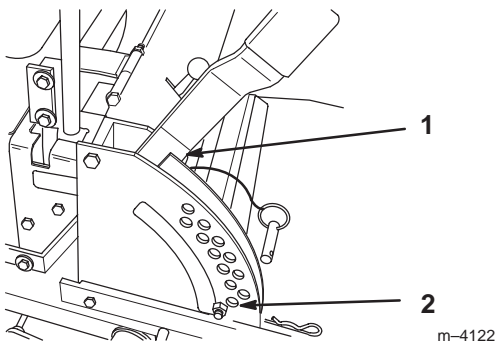
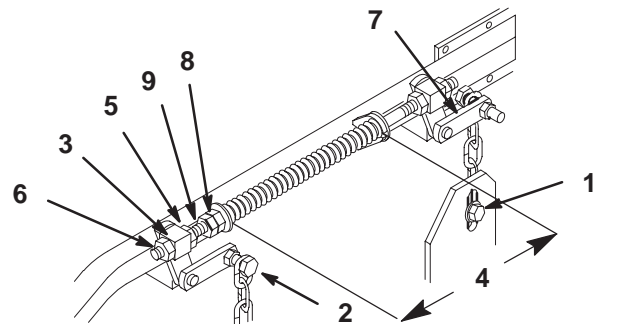

Figure 51
Figure 52
- Check tire pressure of all four (4) tires. If needed, adjust to 13 psi (90 kPa)
- Raise the deck to the transport position (Fig. 51). Take force off of the two large deck lift springs by loosening jam nut and front spring nut, in front of each spring, as far as possible (Fig. 52).
- Place two 1-3/8" (35 mm) thick blocks under rear left and right lower edge of mower. Place one 1-3/4" (44 mm) block under front center lower edge of mower. Not under anti-scalp roller brackets. Lower mower to the 1-1/2" (38 mm) height-of-cut position (Fig. 51).
- Loosen bottom chain bolt in slot at rear of deck. Repeat for opposite side (Fig. 52).
- Loosen front and rear locking nut on either side of front swivel. Loosen until front chains are loose and deck is supported by blocks. Repeat for opposite side. (Fig. 52).
- When hardware is loosened, remaining tension in the large support springs will tend to rotate the deck lift handle up, out of the 1-1/2" position. Press down on the rear deck support arm to firmly return the deck lift handle to the 1-1/2" position (Fig. 52).
- While continuing to press down on rear deck support arm, take the slack out of the rear chain and tighten hardware at the bottom (Fig. 52). Downward pressure may now be released. Repeat for opposite side.
14. Raise deck lift lever to the transport position (Fig. 51).
15. Adjust compression springs by turning the front spring nuts so the distance between the two large washers is 10-1/4" (260 mm). Then tighten jam nut (Fig. 52).